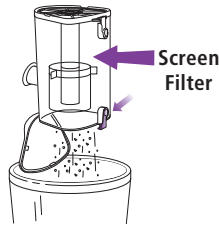

Fig. 22
- 3 If needed, turn the dust cup upside down over the trash receptacle and press the top door release button. **(Fig. 22)** Tap gently to remove contents. Use a dry cloth or paper towel to remove debris stuck to the screen filter inside the dust cup. Press the door shut again until it clicks.